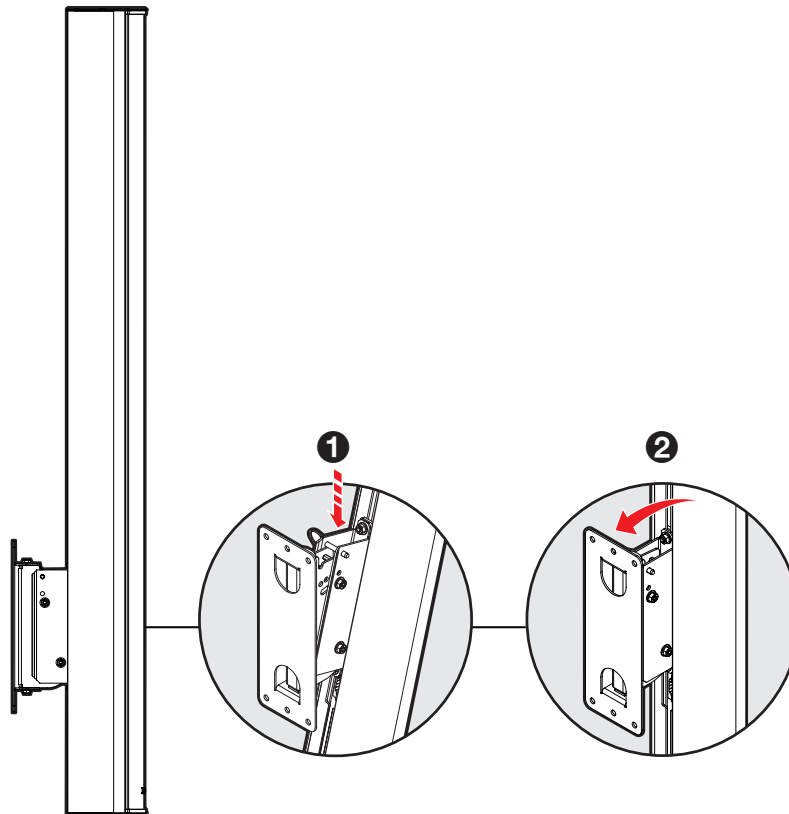

Figure 18. Attaching Speaker to Wall Mount
2. Attach speaker to Wall Bracket Assembly by lowering the Speaker Bracket and bottom Angle Set Screw onto the Wall Bracket Assembly mounting hooks (see figure 18, **1**) and push speaker towards the wall until the Security Pin locks into the Security Pin Hook (**2**).